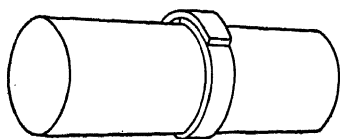

FIG. 69.—Roundabout in position on pipe.
**Forehand Method.**—Use two pieces of 8-in. standard line pipe, each about 12 in. in length. Bevel one end on each pipe to a 45-deg. angle, using a roundabout to mark the pipe so that a straight cut may be made around the pipe (Fig. 69).